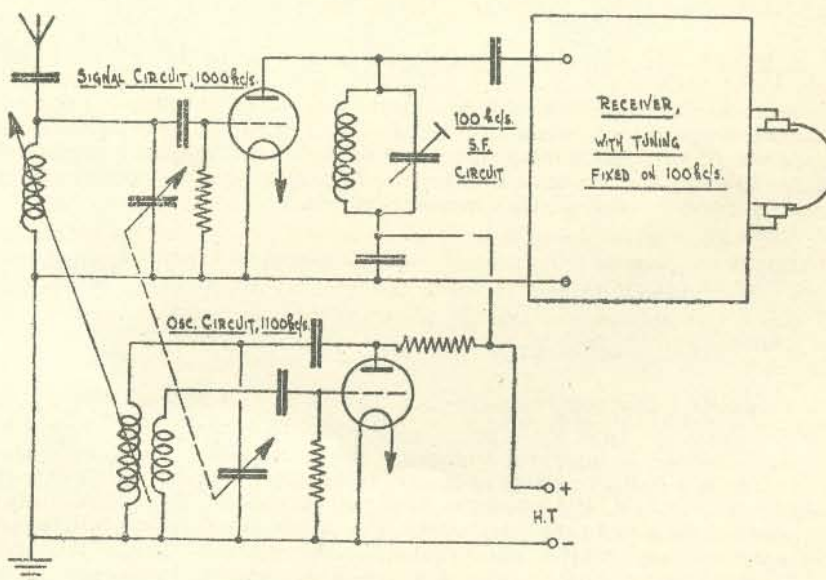

FIG. 74.—Simple "superhet" receiver.
This arrangement is, in fact, functioning as a "frequency changer". The 100 kc/s signal would not operate the telephones in fig. 35, being above audibility (i.e. "supersonic"); coupling a straight receiver tuned to 100 kc/s to the anode circuit of the frequency changer produces a simple supersonic heterodyne ("superhet") receiver (fig. 74), which will give the following advantages over a "straight" receiver.
3. A frequency changer of the type in fig. 74 has the serious disadvantage that, as the signal and oscillator circuits are directly coupled, any alteration in one circuit will alter the other. This "pulling" of the circuit renders tuning of this arrangement very difficult, especially with C.W. signals. An "isolator" or "buffer" valve is therefore introduced between oscillator and signal circuits. This is a screen grid valve, so that coupling between its anode circuit (the signal circuit) and its grid circuit (the oscillator circuit) is effectively prevented.